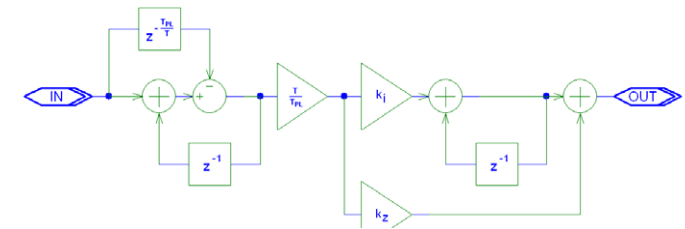

Figure 2. Loop filter structure
The SPLL control loop consists of two integrators: one is hidden in the DCO, and another one is in the LF. Because the LF integrator serves a second integrator in the loop, it must be bypassed with a forward path to maintain stability, as seen in Figure 2. The disadvantage of this topology is that the forward path increases the remaining ripple at the DCO input, which is converted to jitter at the DCO output.
The LF transfer function, given with Eq. (1), can be realised with the signal flow schematic shown in Figure 2.